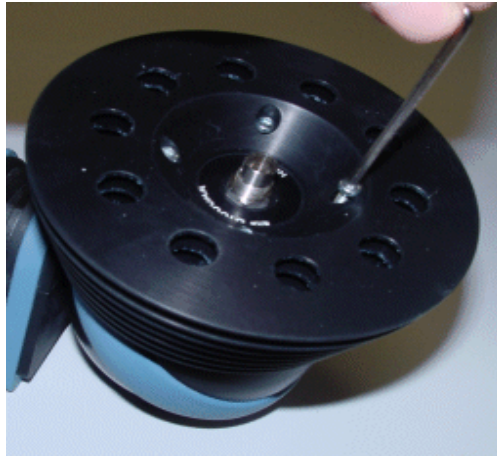

Figure 6 Attaching the Upper Part of the Heat Sink
- 3 Attach the upper part of the heat sink to the integrating sphere. Slide the upper part over the connector adapter with the largest diameter facing opposite to the sphere. Tighten the screws with the Allen key enclosed in the Heat Sink Kit (see Figure 6 on page -22).